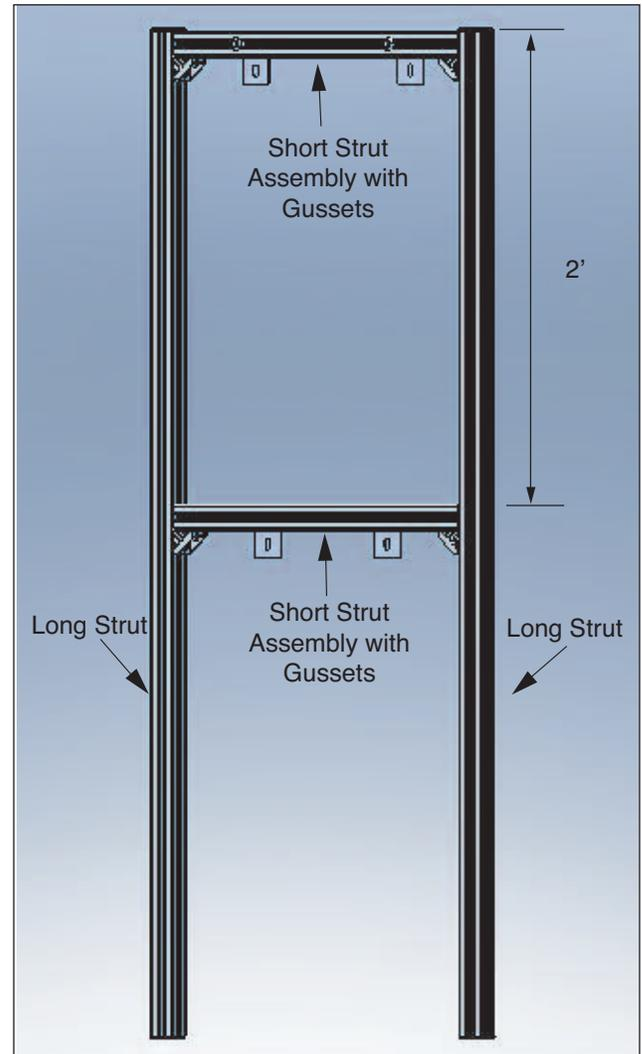

Fig. 5: Complete Assembly
7. Measure and mark each Long Strut 2' from the top. Position the other Short Strut between the Long Struts with the Gussets oriented downward as shown in Figure 5. The top of the Short Strut should be aligned with the marks on the Long Struts. Install a T-Bolt and nut through each Gusset and into the channel of the Long Strut. Tightening the nut will cause the bolt to turn clockwise 90°. Tighten the nut and confirm that the T-Bolt rotated 90° and is fully engaging the channel of the strut.